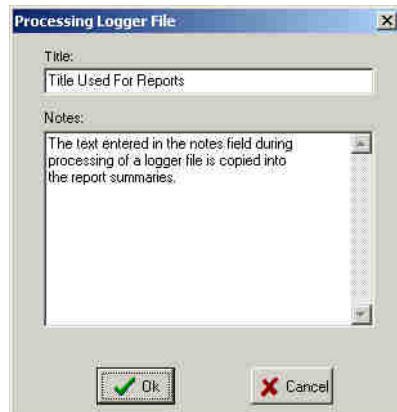

Fig. 3
- The following Dialog Box (Fig. 3) will appear with default Title and Notes. They are not required but will be displayed in the Reports generated by **PowerView**. Enter any desired title and comments and notes then select 'OK'.